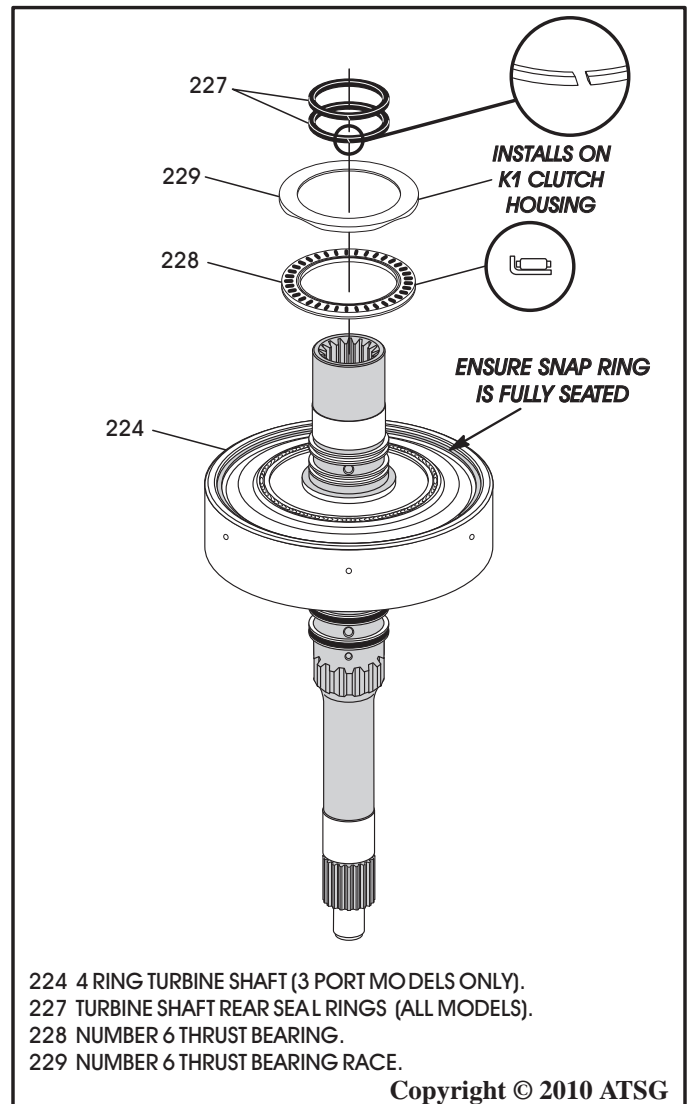

Figure 149
6. Turn the assembly over and install number 6 thrust bearing, the with needles facing up, as shown in Figure 149.
7. Install two more sealing rings on back side of turbine shaft, as shown in Figure 149.